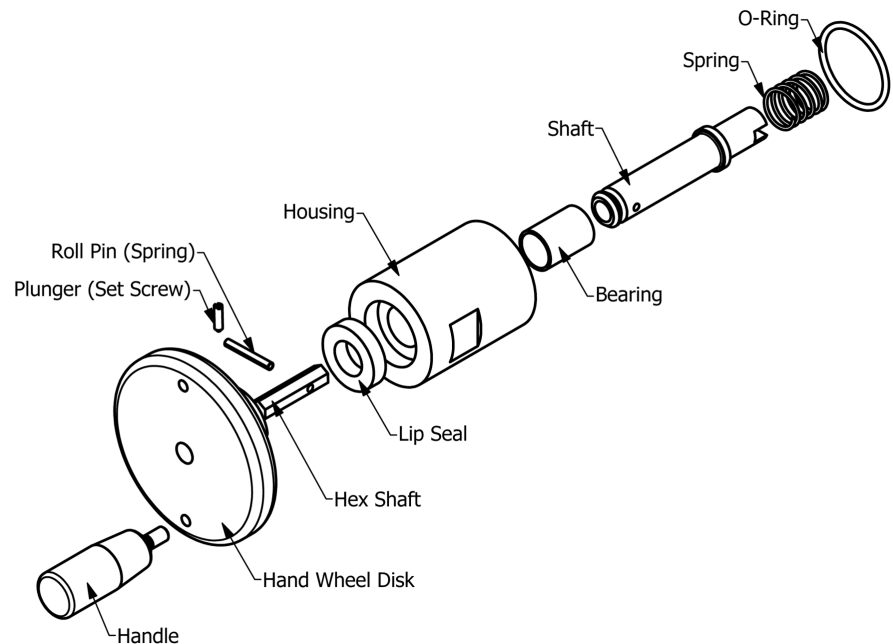

Figure 4.M.15 Handwheel/Drilldrive
- 1 Refer to Figure 4.M.15 and remove the hand wheel from the back end of the motor by unscrewing the housing.